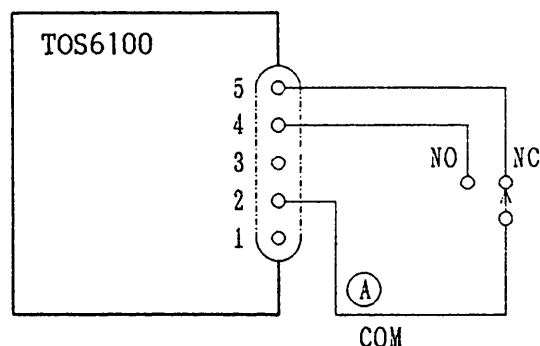

Figure 4.4
- ② In the example shown in Figure 4.4, the Tester is set in the test-on state when the contact is set to the NO side, and the output is cut off forcibly when the contact is set to the NC side.